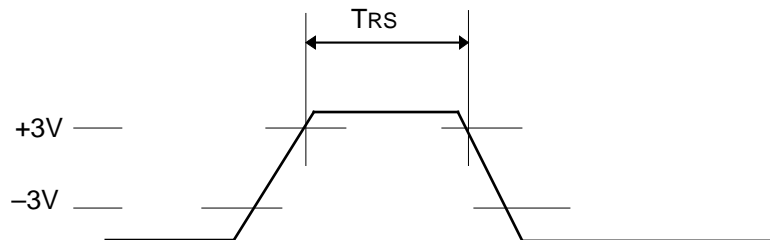

Figure 2.2 Minimum Reset Pulse Width (Pin 6: DSR)
- When a signal is input that does not satisfy the requirements shown in Table 2.2, 2.3 and in Figure 2.2, 2.3, printer operation is not guaranteed.